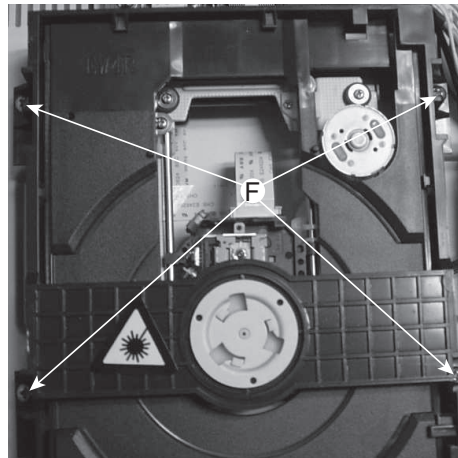

Figure 8
- 1) Loosen 4 screws "F" to remove the DVD Module as shown in figure 8.